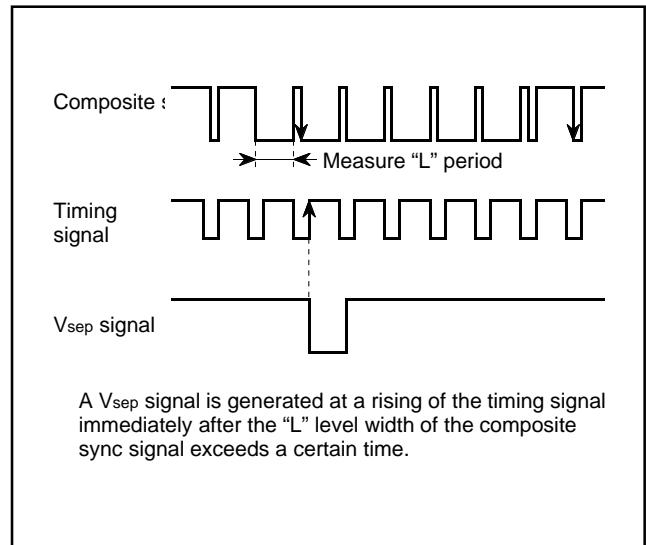

Fig. 8.10.6 Vsep Generating Timing (method 2)
- Method 2 The "L" level width of the composite sync signal is measured. If this width exceeds a certain time, it is detected whether a falling of the composite sync signal exists or not in the "L" level period of the timing signal immediately after this "L" level. If a falling exists, a Vsep signal is generated in synchronization with the rising of the timing signal (refer to Figure 8.10.6).
Figure 8.10.6 shows a Vsep generating timing. The timing signal shown in the figure is generated from the reference clock which the timing generating circuit outputs.